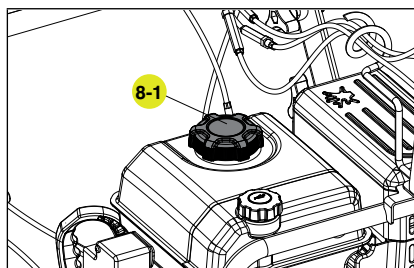

Figure 8
1. Remove the fuel tank cap (8-1) (Fig. 8).